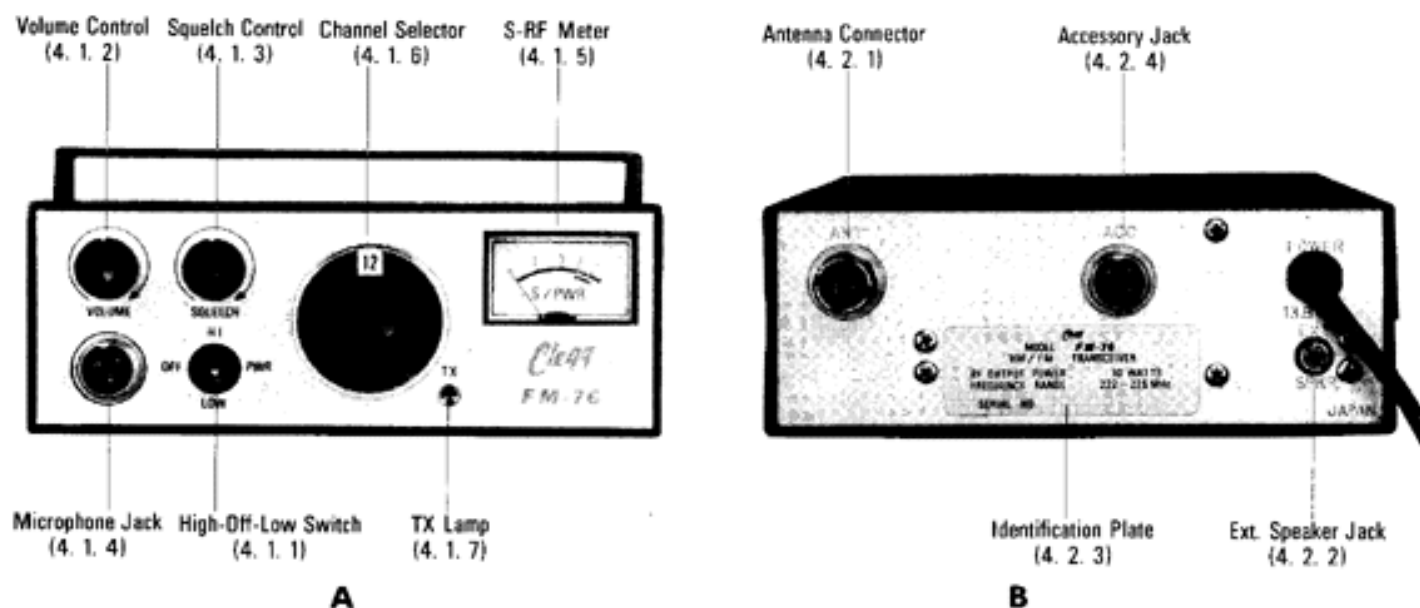

FIG. 2
- 4.1 Front control and jack (Fig. 2-A)
- 4.2 Rear Panel (Fig. 2-B)